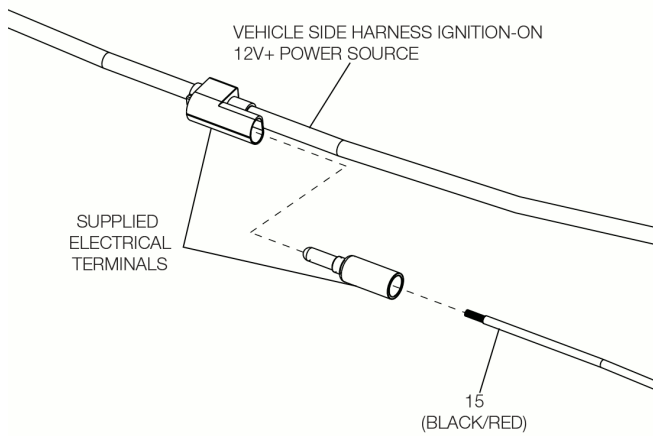

**Figure 8.** Control Connection
7. Connect the Control connector to the mating Vehicle Side Wiring Harness (15) connector as shown in Figure 8.